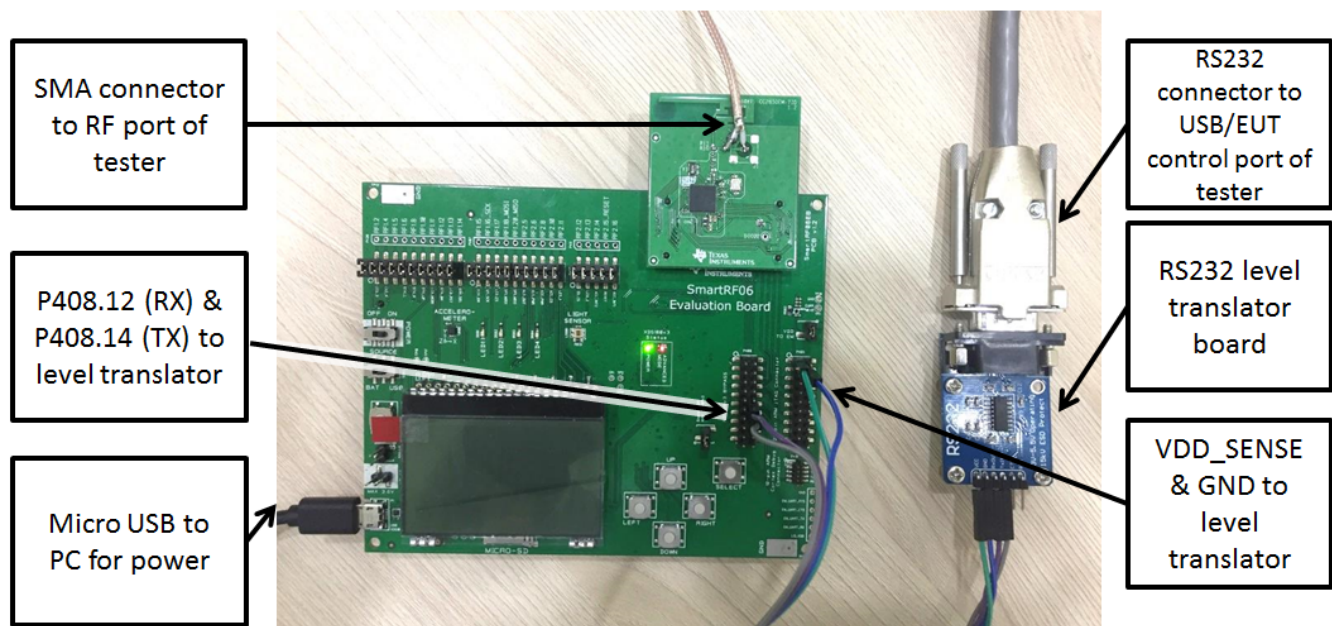

Figure 4. Hardware Setup for the CC2650DK in RS232 Mode
10. The full setup should look similar to the one shown in Figure 4. The use of an SMA connector on the CC2650DK's J1 is preferred. In Figure 4, the coaxial cable is soldered directly onto PCB.